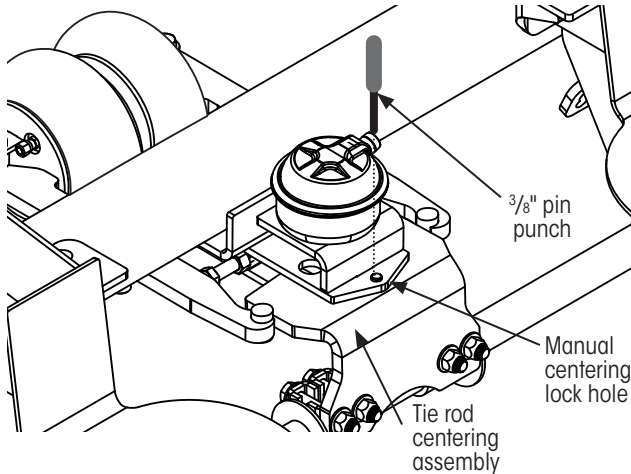

Figure 28: Locking wheels to straight position
3. **Center wheels and insert** a $\frac{3}{8}$ inch pin punch (or equivalent) into manual centering lock holes, as shown in Figure 28.
5. **Remove** dowel pin from the centering lock hole (Figure 28).